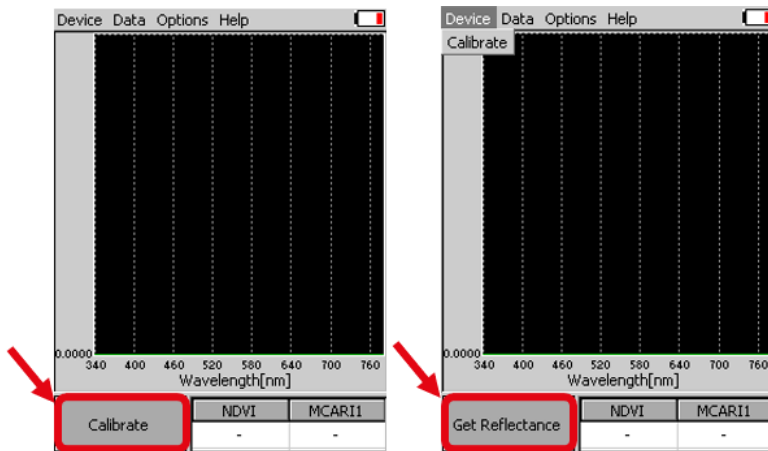

Fig. 7 Calibration and measurement buttons on the PolyPen display
- Confirm this step with *OK* and proceed to measure plant samples. The *Calibrate* button changes to *Get reflectance* button (Fig. 7).